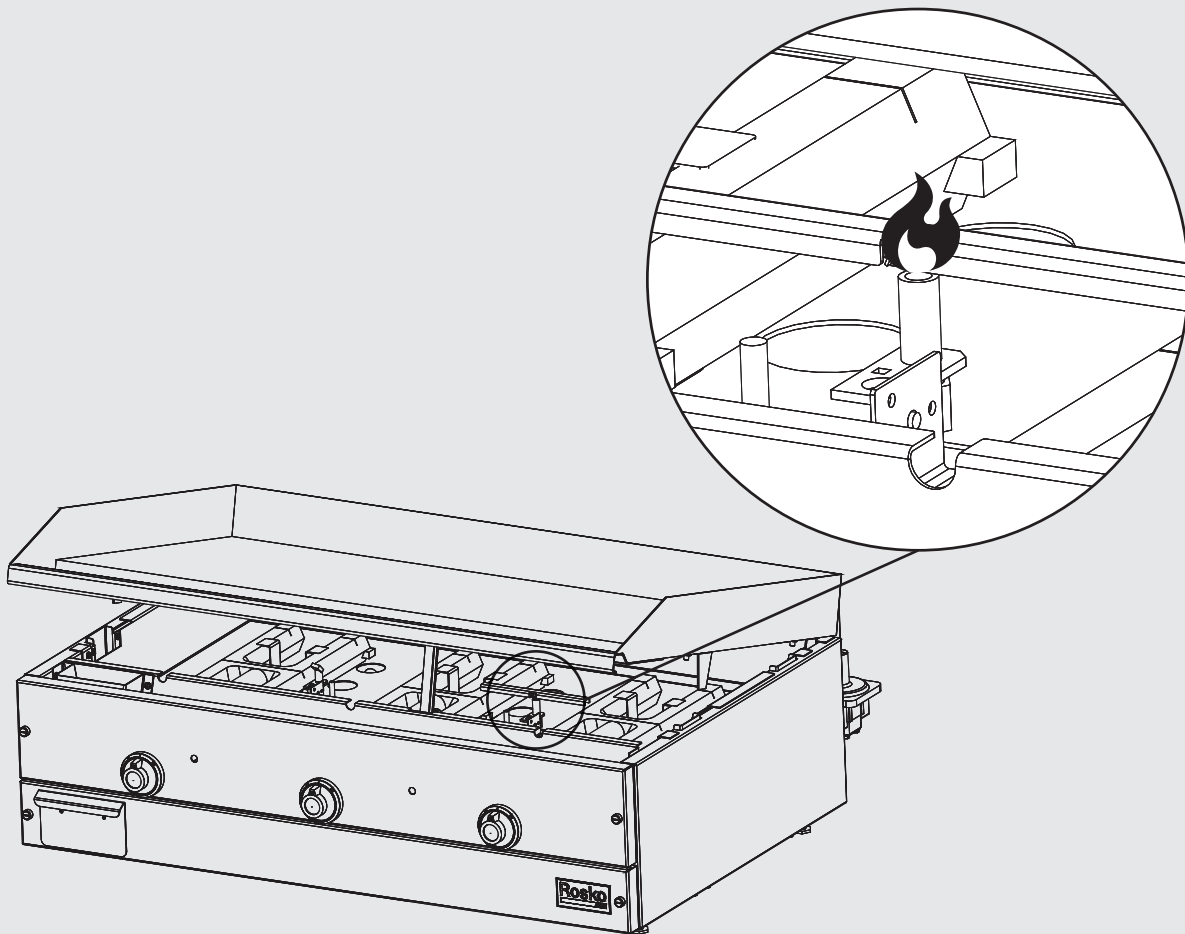

Figure 8
1. Turn the thermostat(s) to the "OFF" position and wait five (5) minutes.
4. Light on the pilot(s) manually. **(Figure 8)**